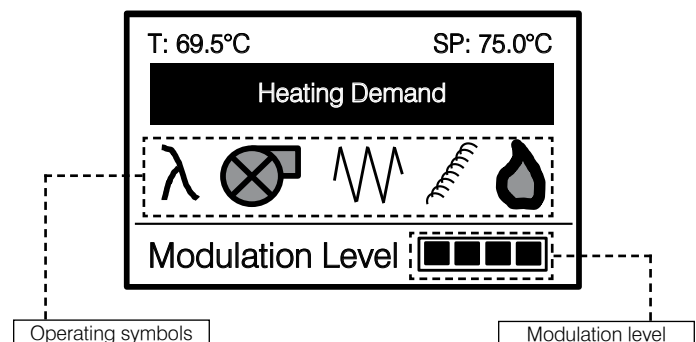

Figure 9: Burner control panel LCD screen - operating symbols and modulation level
- **Modulation Level** – Burner is now firing. The output modulation is shown on the modulation indicator. Refer to Figure 9.